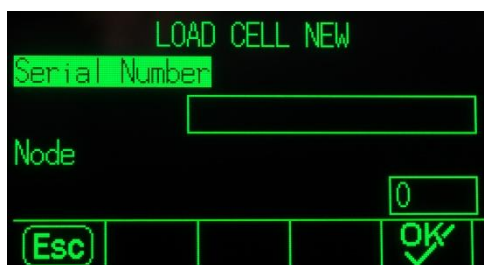

Figure 3-12: Manual Address Load Cell New Screen
- To address a newly added cell into the network, simply press the NEW softkey **📄** from the Load Cells View screen. Enter the cell's serial number and the required node address into the entry boxes shown in the Load Cell New screen (Figure 3-12) then press the OK softkey **OK** to complete the new cell addressing.